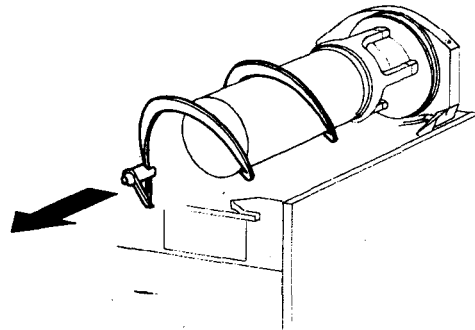
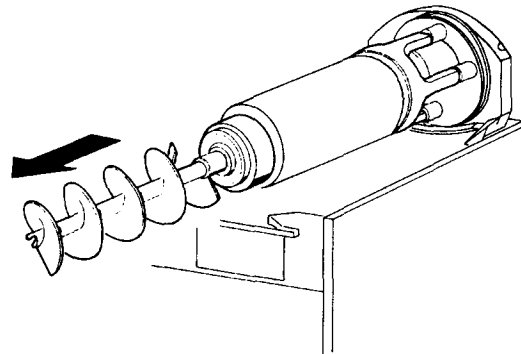

figure 9
figure 10
- 4 - Slide the outer spiral out (see figure 9) and then the inside auger (see figure 10).